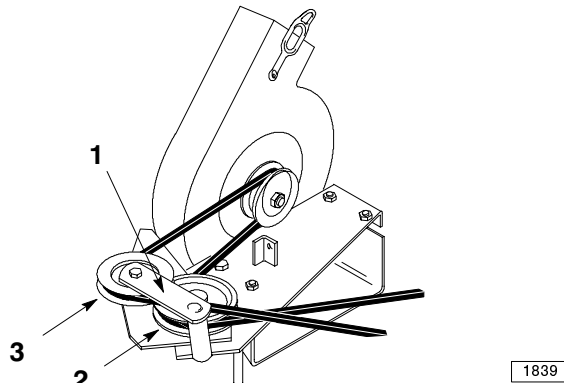

Figure 33
1. Open latch and swing the blower out away from the mower, remove the blower belt from idler and blower pulleys (Fig. 33).